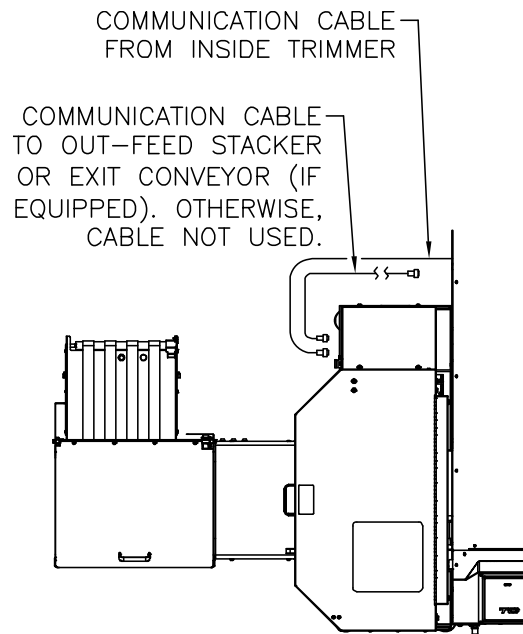

Figure 2-13. Comm. Cable Connections
- Connect the communication cables as shown in Figure 2-13.